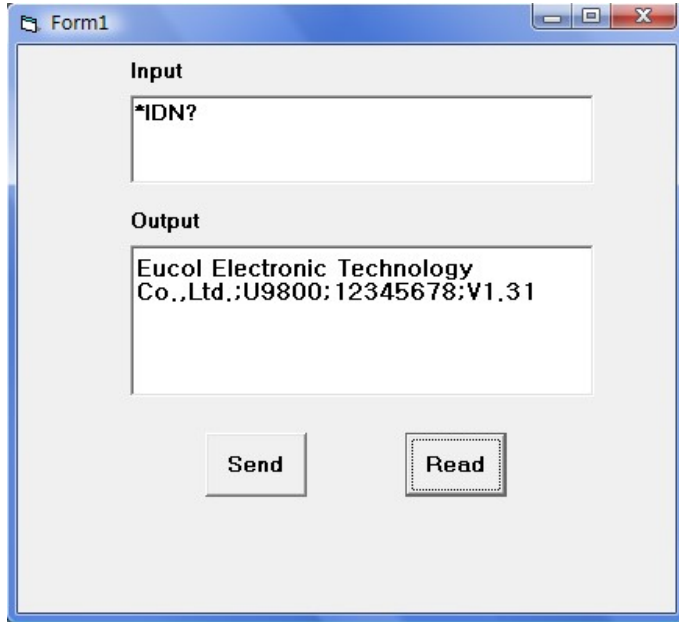

Figure 4-2-3
**6.** Save and run the project, you will get a single executable program. When the oscilloscope has been successfully connected with PC, you can input a command such as \*IDN? (the default input command) in Input edit box and click Send and Read successively, the oscilloscope will return the result which will be displayed in Output edit box. See figure 4-2-3.